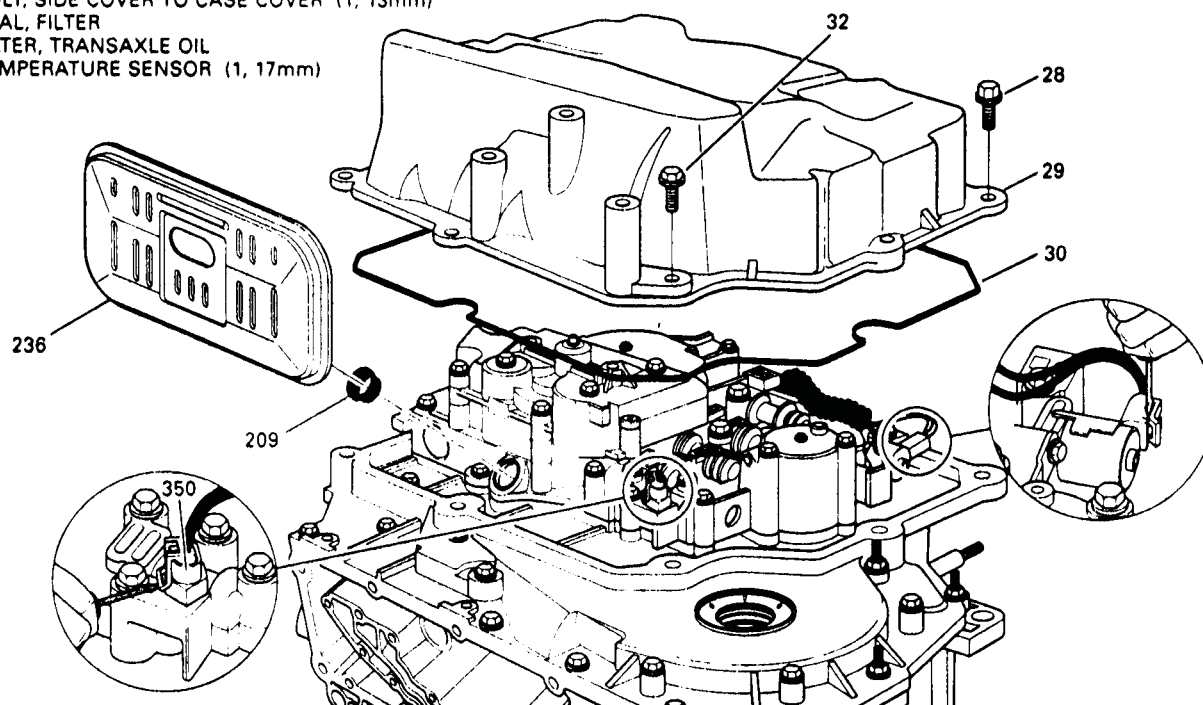

Figure 114
8. Install new main filter seal (209) into pump as shown in Figure 114.
9. Install new main filter into the filter seal shown in Figure 114.
10. Install new gasket into the side cover (See Figure 114).
11. Install side cover on transaxle as shown in Figure 114.
12. Hand start all side cover bolts and then torque to 37-40 ft.lb. for bolt (28), and 15-20 ft.lb. for bolt (32). (See Figure 114).